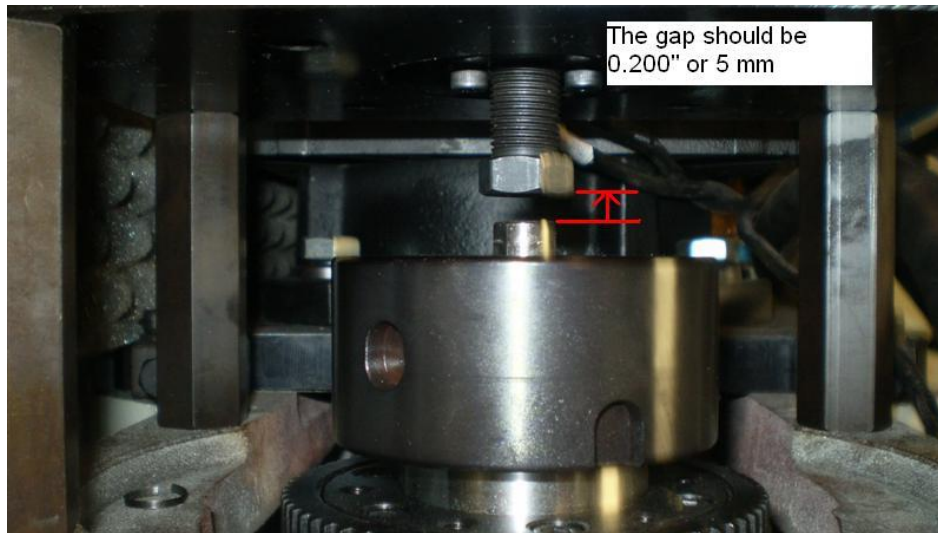

Figure 6.15.2b
- f. Verify that the air gap between the air cylinder adjusting bolt and the draw bar is 5mm (with the air supply on). If the air gap is other than 5mm, release the two SHCS that secure the clamping collar, and adjust the LH adjusting screw accordingly. See figure 6.15.2b.
15. Verify that the air gap between the air cylinder adjusting bolt and the draw bar is 5mm (with the air supply on). If the air gap is other than 5mm, release the two SHCS that secure the clamping collar, and adjust the LH adjusting screw accordingly. See figure 6.15.2b.